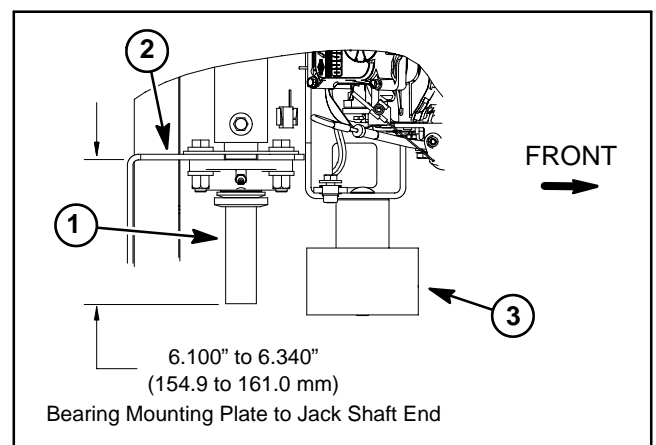

Figure 13
4. Position cover mounts (items 27 and 28) to frame. Align bearing flanges and cover mounts to frame. Secure bearings and mounts to frame with four (4) cap screws, eight (8) flat washers and four (4) lock nuts.
5. Rotate jack shaft a few times to align bearings. Position jack shaft so that end of jack shaft on drive side (clutch side) extends 6.100" to 6.340" (154.9 to 161.0 mm) from bearing mounting plate (Fig. 13).